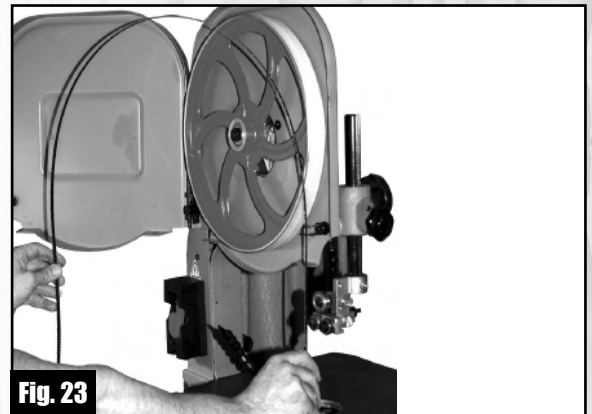

Fig. 23
- Open the top and bottom wheel cover doors and bring the left hand side of the loose blade toward you and out of the left hand blade guard slot. (See Fig. 23)